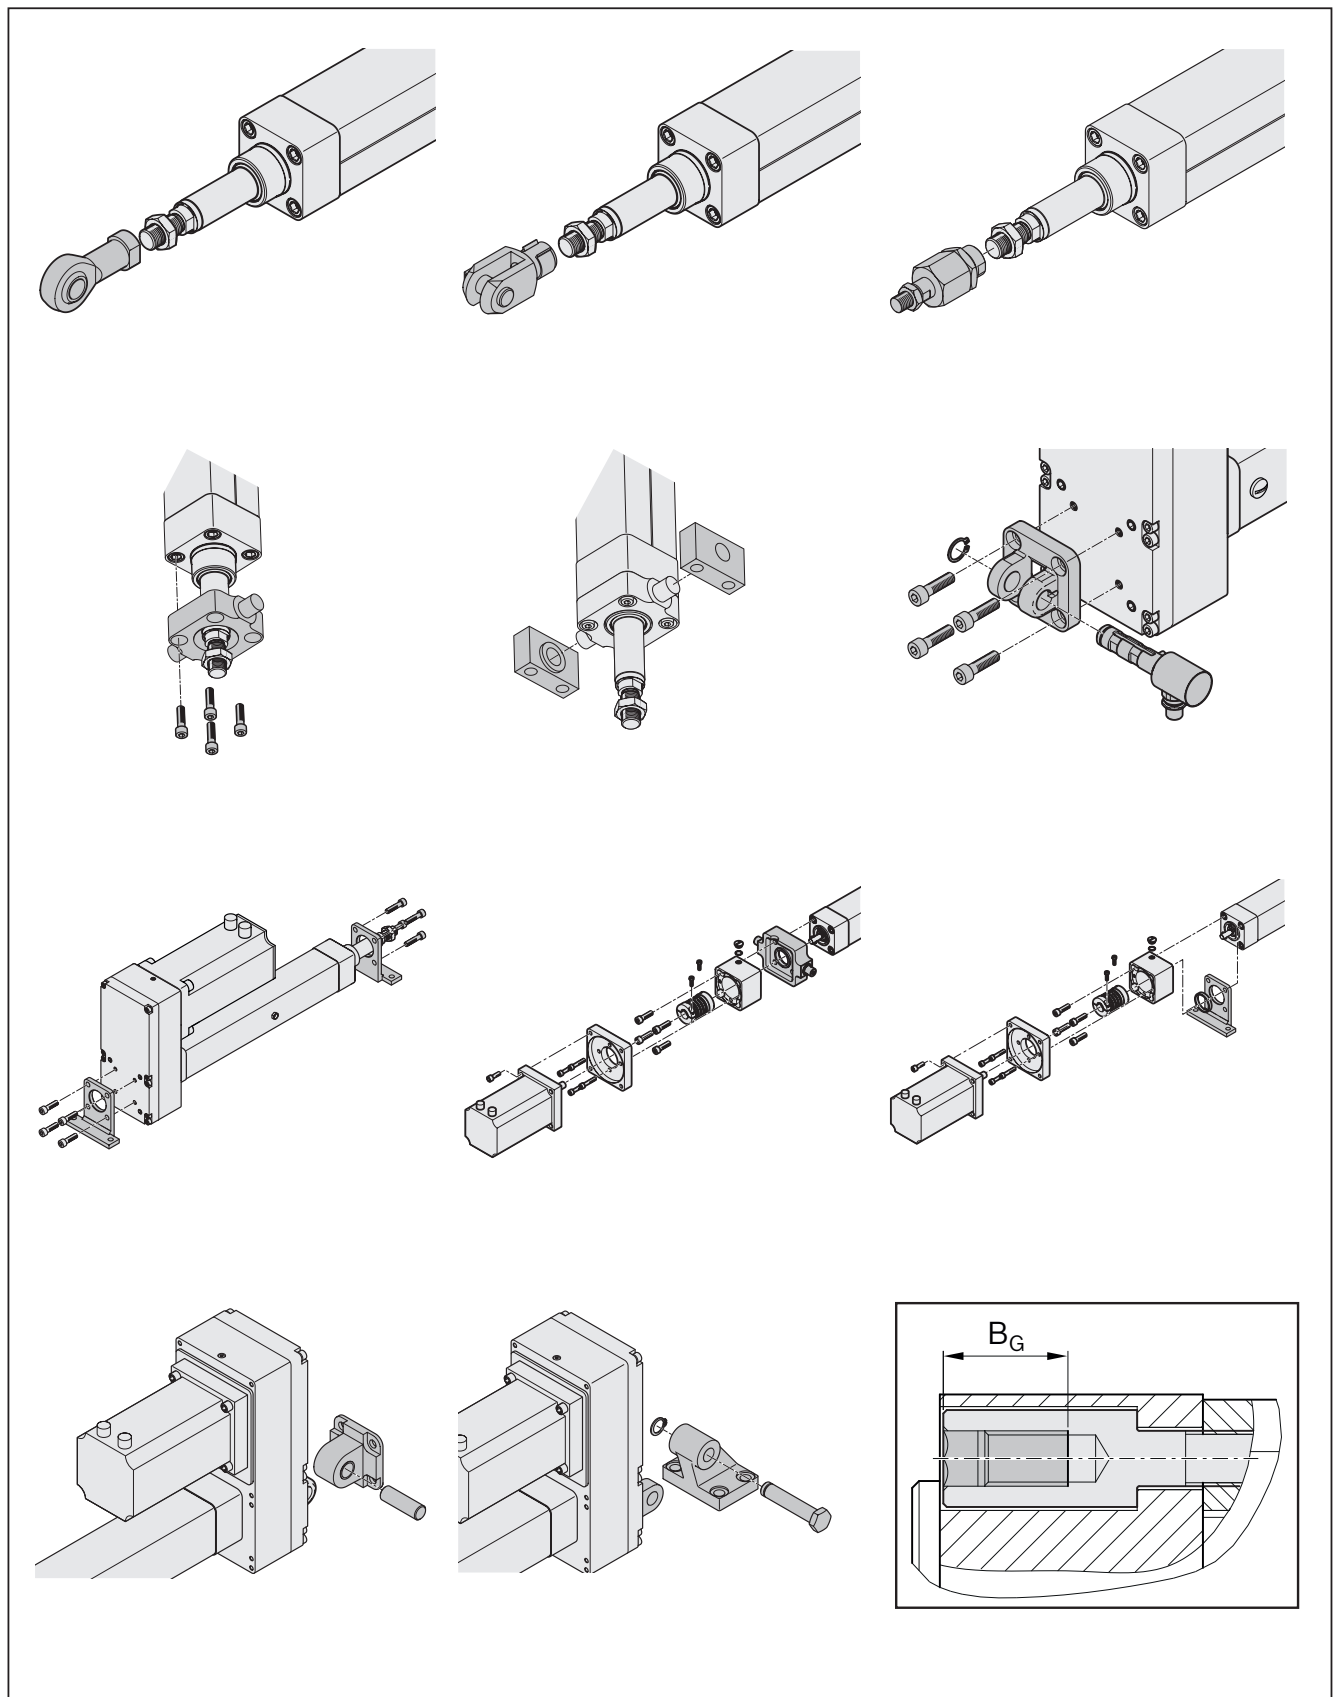

Fig. 9: Overview of fastening elements
- Mount the fastening elements as shown in the illustration ► Fig. 9. Tighten the fastening screws evenly, taking care not to exceed the maximum screw-in depth B_G or tightening torque M_A .